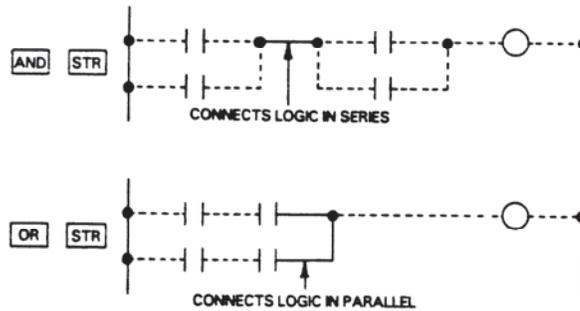

Figure 5-7. AND STR and OR STR Connections
Two very useful functions are programmed using a **2-key** sequence, the AND STR and the OR STR. The AND STR provides a common series connection between a block of logic and the OR STR provides a common parallel connection for a block of logic. These instructions provide the connecting links not allowed with any of the previously mentioned instructions. The logic used **with this type** of operation is referred to as a push-down stack. The push-down stack can accommodate up to eight levels (groups) of logic. A push-down stack can be thought of as a temporary storage **area** to allow the combining of elements in series (AND) or parallel (OR) connections. **Figure 5.7** illustrates the use of these functions.